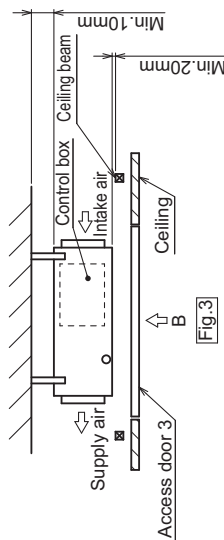

Fig.3
- (2) When a space of less than 300mm is available below the unit between the unit and the ceiling. (At least 20mm of space should be left below the unit as shown in Fig.3.)
(At least 20mm of space should be left below the unit as shown in Fig.3.)
[Fig.3]